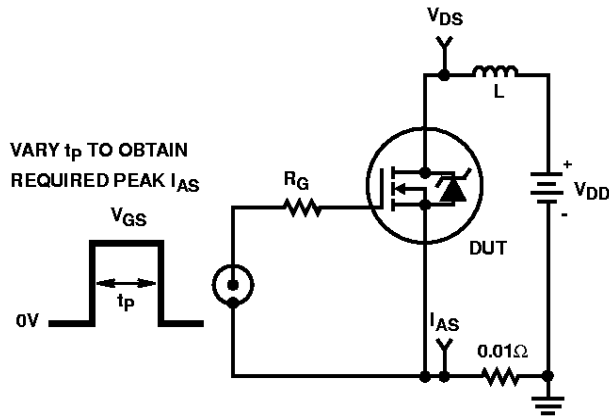

FIGURE 15. UNCLAMPED ENERGY TEST CIRCUIT
4. $V_{DD} = 50\text{V}$, starting $T_J = 25^\circ\text{C}$, $L = 4\text{mH}$, $R_G = 25\Omega$, Peak $I_{AS} = 23\text{A}$ (Figures 15, 16).